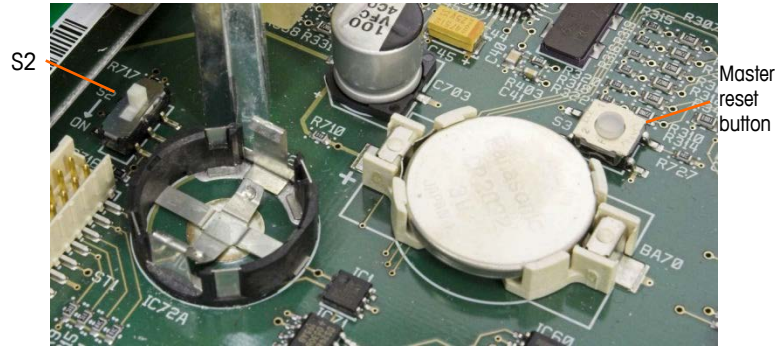

Figure 4-50: Main PCB, Master Reset Button and S2 Locations Indicated
- Two types of master reset are possible, depending on the position of switch S2 (shown in its OFF position in Figure 4-50): A full reset **including** metrologically significant scale configuration data, and a reset that **preserves** scale data.
3. Press and hold the MASTER RESET button (Figure 4-50).